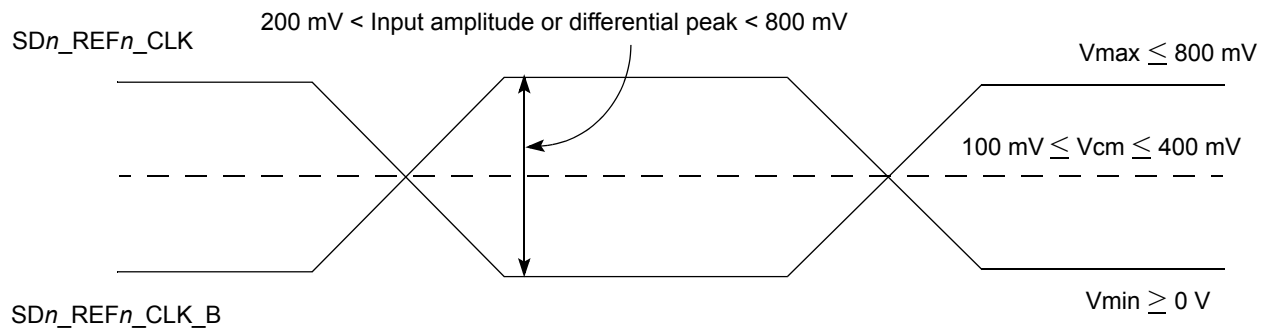

Figure 32. Differential reference clock input DC requirements (external DC-coupled)
- For an external DC-coupled connection, as described in Section 3.6.11.2.1, “SerDes reference clock receiver characteristics,” the maximum average current requirements sets the requirement for average voltage (common mode voltage) as between 100 mV and 400 mV. Figure 32 shows the SerDes reference clock input requirement for DC-coupled connection scheme.